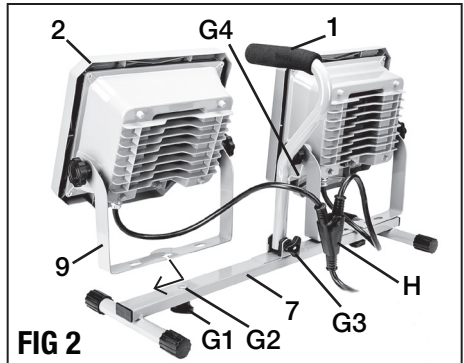

FIG 2
ATTACHING WORK LIGHT HEADS TO STAND (FIG 2)
1. Place the stand (7) on a flat surface.
2. Rotate the carrying handle (1) straight up. Tighten the handle locking knob (G3) to secure it in place.
3. Install one work light head (2) on the stand (7) by sliding and positioning the U-shape bracket (9) under the bolt cap (G2) as shown in FIG 2. Tighten the locking knob (G1) to secure the work light head in place. Repeat the procedure on the second work light head.
4. Hang the power cable splitter (H) on the hook (G4).
ADJUSTING THE TRIPOD (FIG 2)